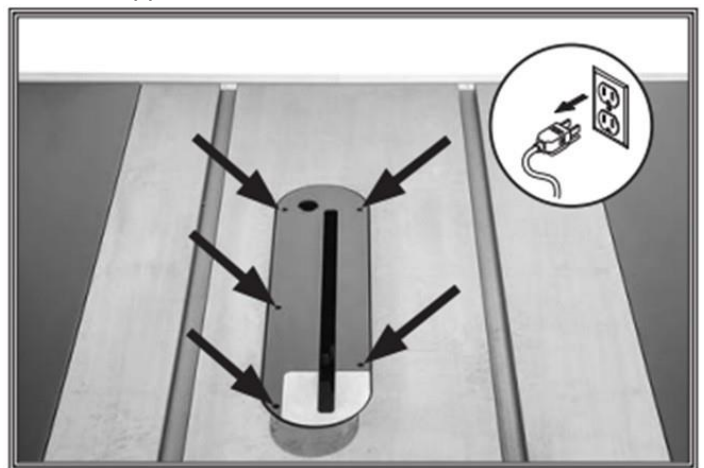

Figure 63: Table inset tuning screws
The table insert should be perfectly flush to the table, this will help with continuous feed and smooth surace when cutting., and smooth surface when you're sliding the workpiece over. A magnet holds the inset in place, and it sits on (5) adjustment screws, see figure 63. Every time the insert is moved you must check and adjust it, also it should be checked periodically to make sure that the adjustment is still as it supposed to be.